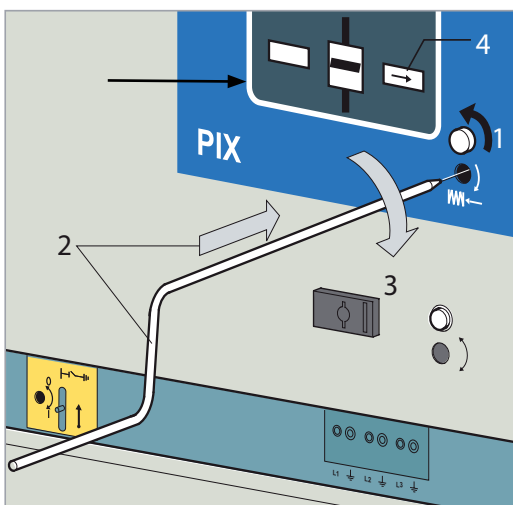

Fig. 10.18
- Open cover (Fig. 10.18, 1) and insert crank (2).
- Turn clockwise (3), until the charge drive mechanism is uncoupled (sound). The energy storing device indicates the “charged” condition (4).
The position indicator of the energy storing device indicates the “charged” condition (Fig. 10.18, 4).